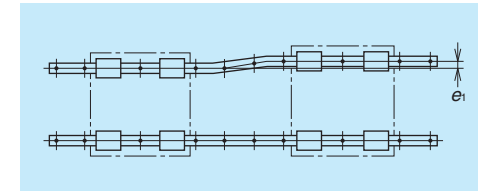

Fig. 10.5
- Figs. 10.5 and 10.6 represent the mounting errors of  $e_1$  and  $e_2$ . Their permissible values are shown in description "5. Installation" of each model.